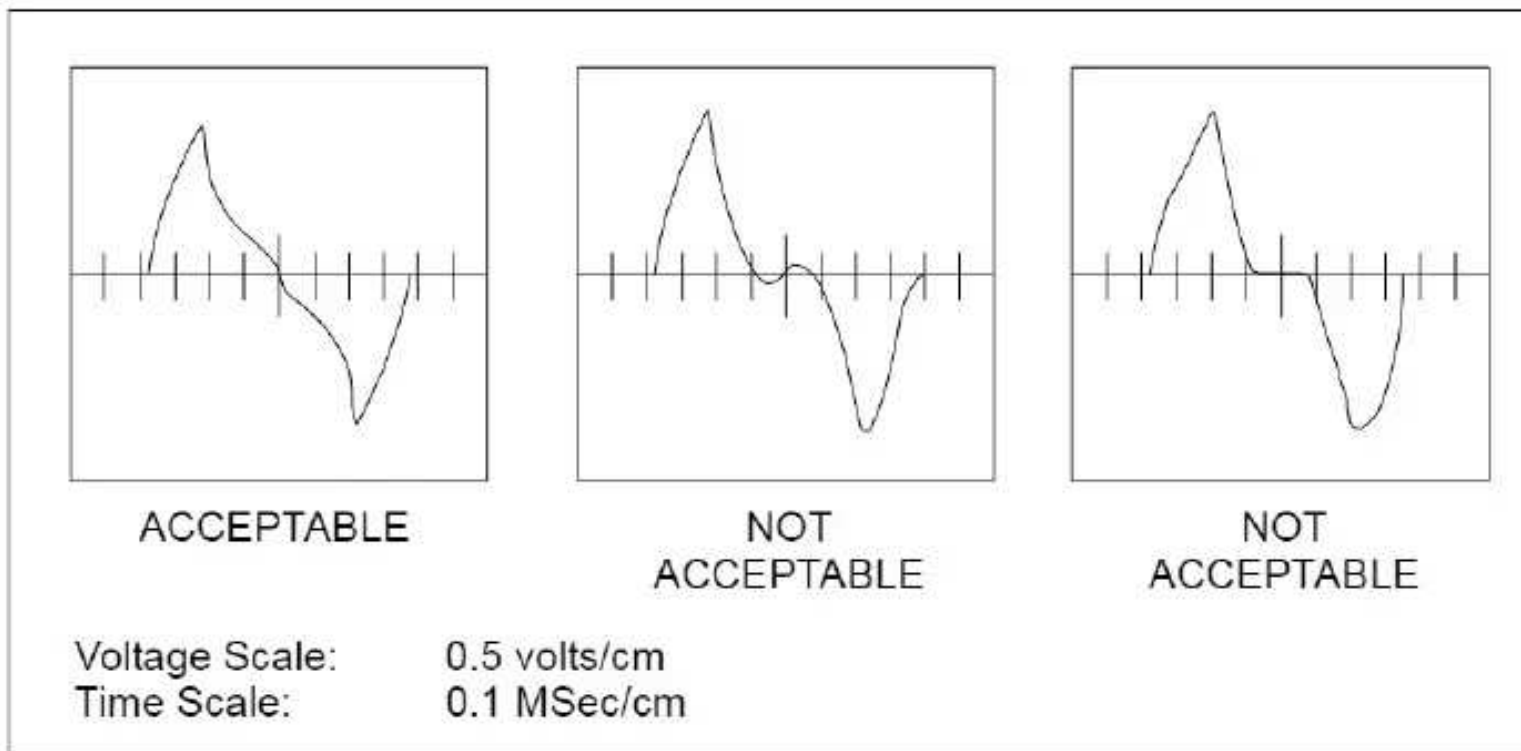

Figure 4-6
- B. Acceptance Limits: The peak to peak voltage shall be (2.5) volts minimum. Typical acceptable voltage wave form shall be shown in Figure 4-6.